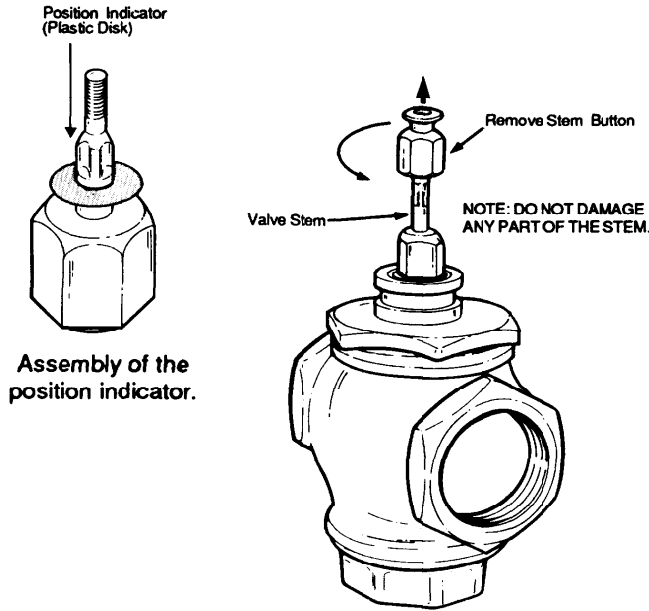

FIG.3 -- PREPARATION FOR VALVE ASSEMBLY.
3. Remove the stem button (Fig. 3) from the valve stem.
4. Slide the position indicator (plastic disk or rubber O-ring) over the valve stem. (See inset, Fig. 3) Indicator will self-align to the marking on the yoke after one complete operating cycle.